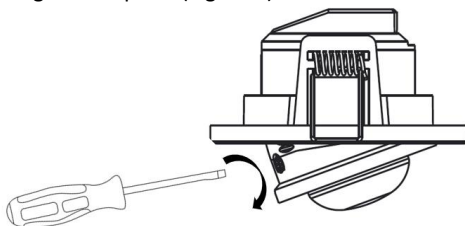

Figure 2
3. Use a screwdriver to pivot out the PIR housing to access the control dials. Set the PIR dials to the required settings and push the PIR housing back in place (Figure 2).